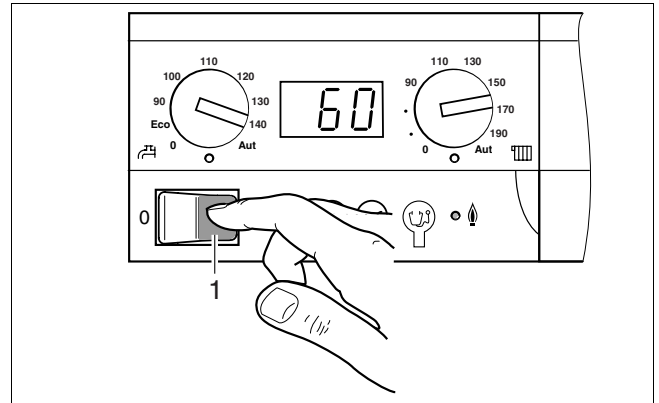

Fig. 10
- Switch on the heating system by setting the main switch to position "1" (see fig. 10, page 11).
- Wait five (5) minutes to clear out any gas. Then smell for gas, including near the floor. If you smell gas, STOP! Follow "B" in the safety information on page 10. If you do not smell gas, go to the next step.
- Switch on the heating system using the main switch (fig. 10).